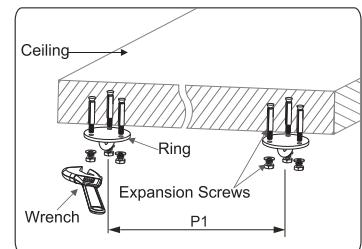

Figure 1
1. Fix the rings (not accessories) on the ceiling according the distance P1 between two hooks (note: make sure each of rings can endure at least 200kg) (figure 1).